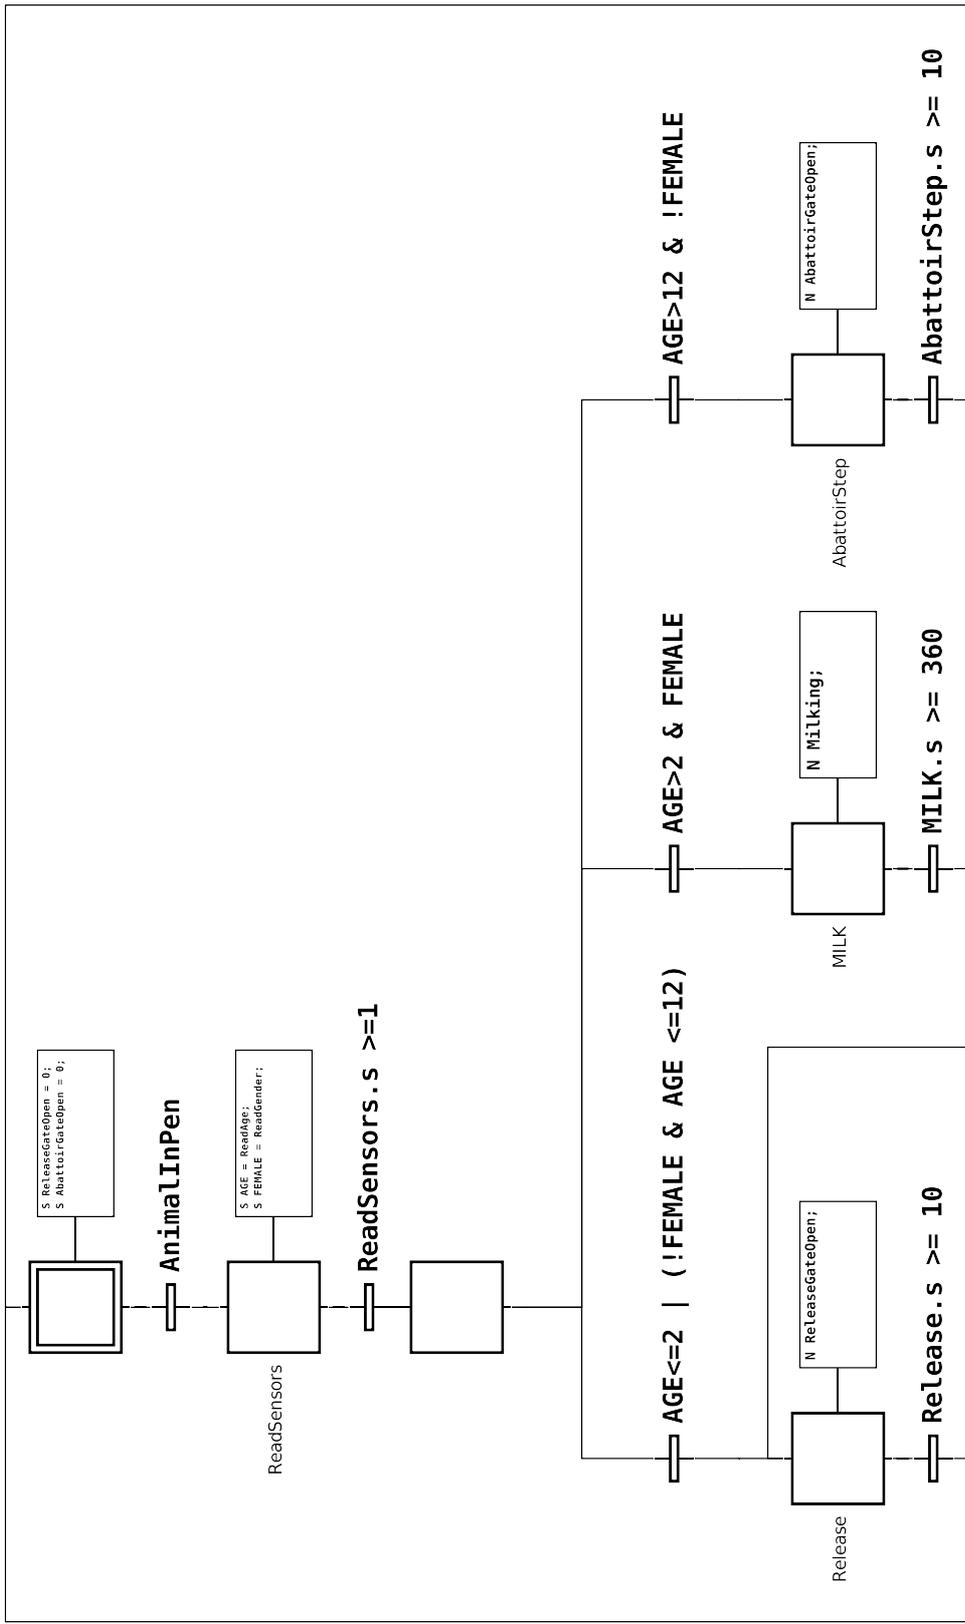

Figure 1 JGrafchart program in Problem 3
3. The workers at Maggie's farm have become tired of sorting the cattle every day. With the aid of an engineering student from Lund, they have constructed an automatic sorting and milking pen (Swedish: *fälla*). The logic that controls the pen has been implemented in JGrafchart, see Figure 1.